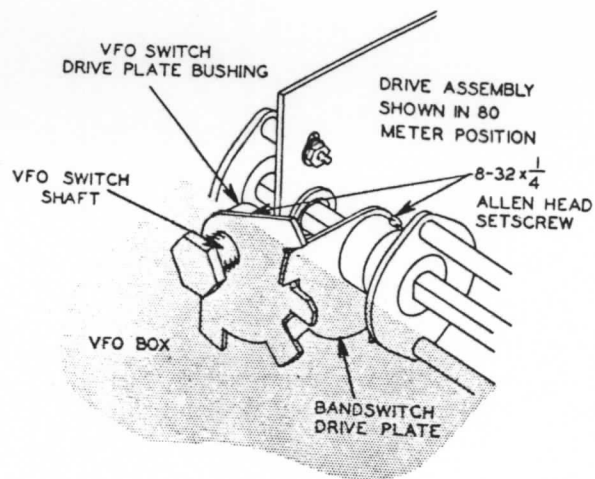

Figure 17
- (✓) Set the VFO switch and the band switch in their extreme counterclockwise positions. Referring to Figure 17, engage the two drive plates as shown. Secure the band switch drive plate with the Allen head setscrew. Cycle the switch at this time to observe its correct action. Note as the band switch is rotated clockwise from full counterclockwise, the VFO band switch is actuated twice, skipped once, then actuated once more. Adjust until a smooth action is obtained and secure permanently.